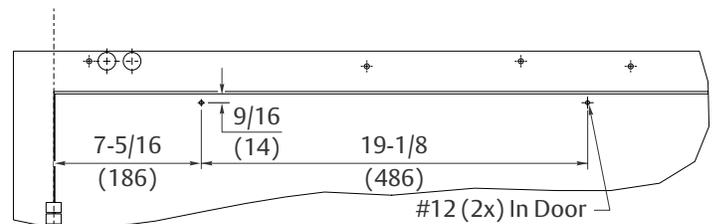

Figure 4 Right Hand Shown
1. Using template on page 15, locate and prepare holes in door for two (2) #12 x 2-1/4" wood screws (Figure 4)